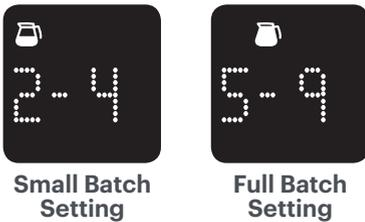

Fig. 2
2. When setting Brew Size, carafe icons will blink on the digital display. Rotate dial to choose between "Small Batch" or "Full Batch". Click dial to confirm selection, as shown in Fig. 2.